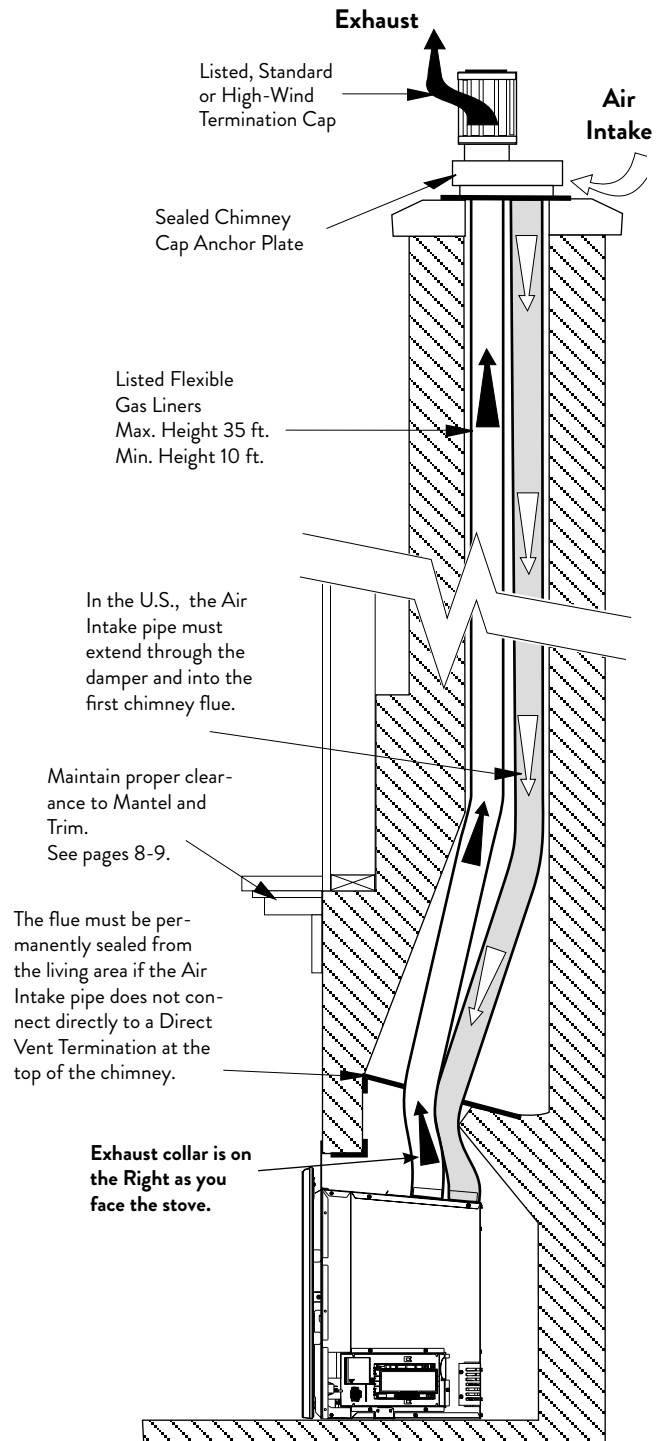

Figure 6.1. Masonry Fireplace Venting Configuration.
- The minimum height of termination cap from the top of the unit shall be no less than 10 ft. (3.05 m), and the maximum height shall be no more than 35 ft. (10.67 m). See figures 6.1 - 6.2.
This appliance must be vented through the chimney by a pair of 3 inch flexible aluminum liners listed for use with gas appliances. One duct is attached to the exhaust port on the top of the unit and will carry the exhaust gases to the outside of the house. This exhaust liner must run the full length of the chimney and be directly connected to the chimney termination cap. See figures 6.1 - 6.2.
If the intake flex does not extend the full length of the chimney and connect to the unit and the termination cap - **A NONCOMBUSTIBLE BLOCK OFF PLATE MUST BE CONSTRUCTED AND INSTALLED ABOVE THE UNIT BELOW THE END OF THE INTAKE DUCT** (normally at the damper area). See figure 6.1.